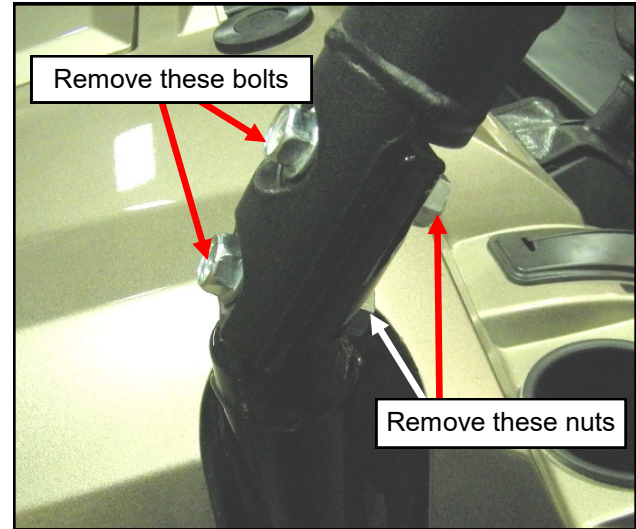

Fig. 1.4 Front ROPS M12 bolts (4)
- 1.4 Per figure 1.4, remove and discard the two (2) M12 bolts and nuts from each of the front corners of the ROPS (Rollover Protective Structure).